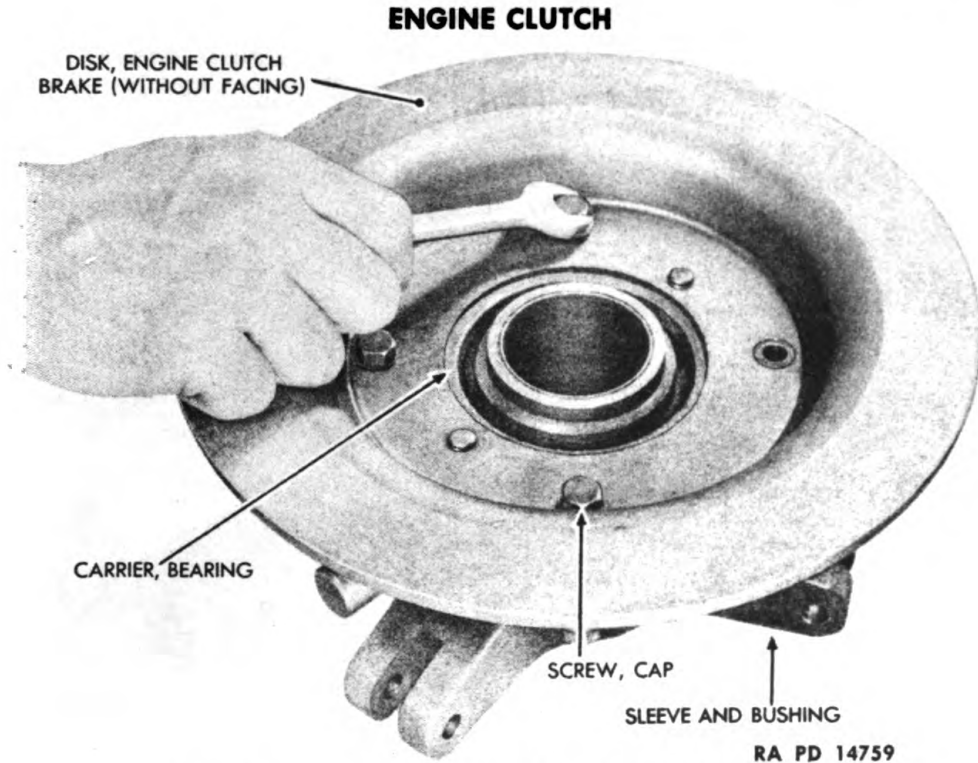

Figure 23 – Engine Clutch Brake Disk Removal
(11) REMOVE ENGINE CLUTCH BRAKE DISK (fig. 23).
(9) **INSTALL BRAKE DISK (WITHOUT FACING)** (fig. 23).